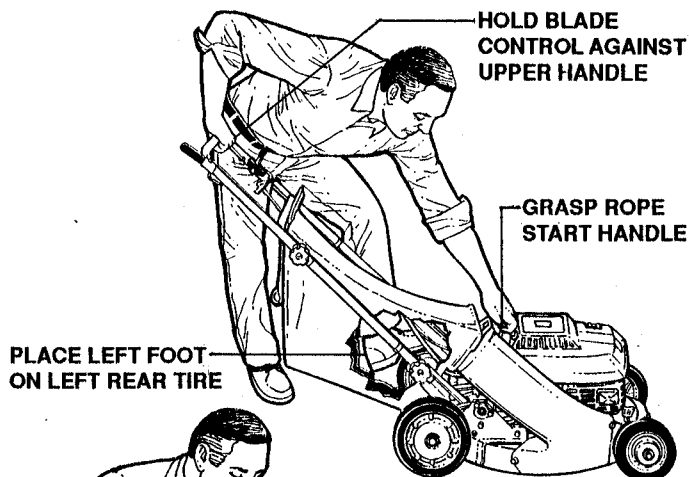

FIGURE 2.2
- Bend at waist to reach rope start handle. See Figure 2.2.